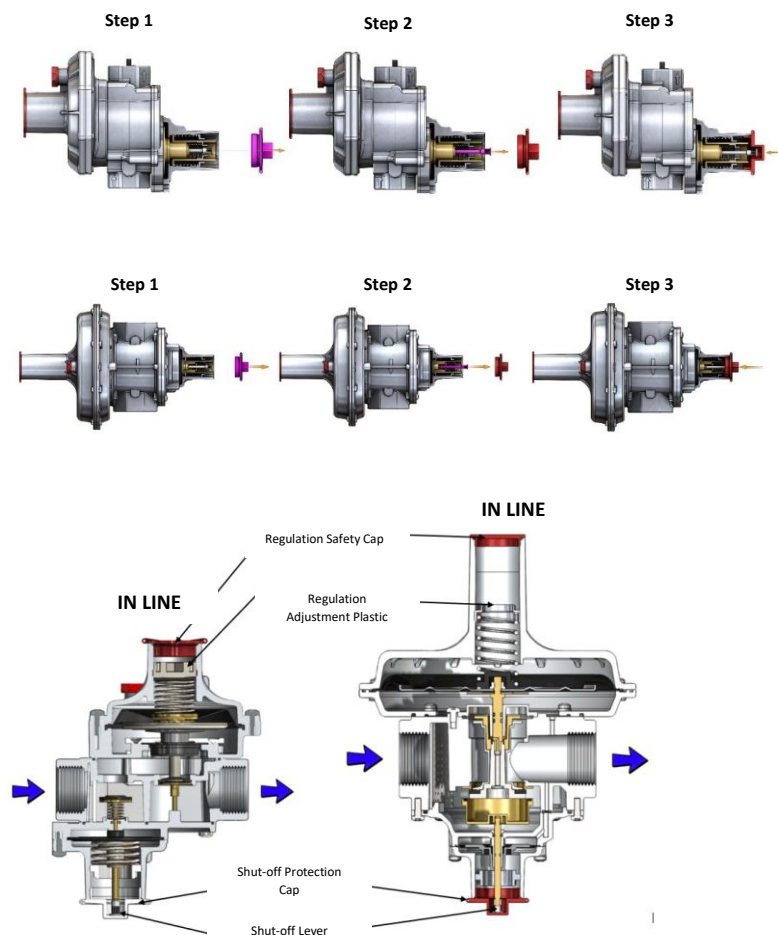

Figure 5
- 3- Manually turn the transparent shut-off protection cap on Figure 5 counterclockwise to remove it,
On the ERG-E series products, the outlet pressure may increase while operating due to internal leakages, the blockage of the ventilation line, product malfunctions, the abrupt stopping of the boiler, etc. (the sudden drop in the usage capacity) originating from unclean air or the foreign substances on the line. When this happens, the product's high pressure safety shut-off device may be turned off and the gas may be cut off. The position of the safety shut-off can be observed via the shut-off lever which is inside the shut-off safety cap on Figure 5. In this case, the setup procedure must be carried out once again.